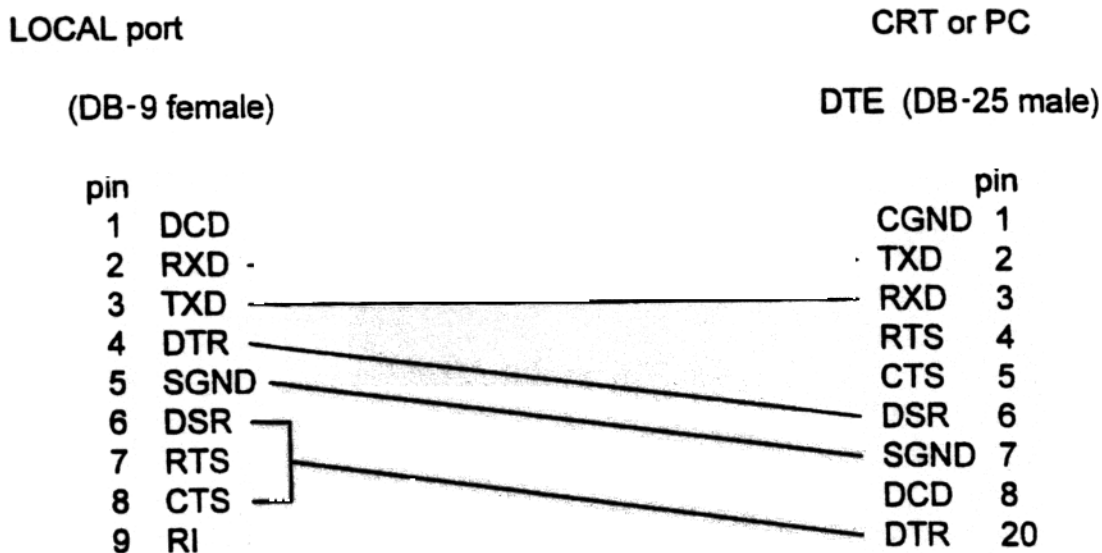
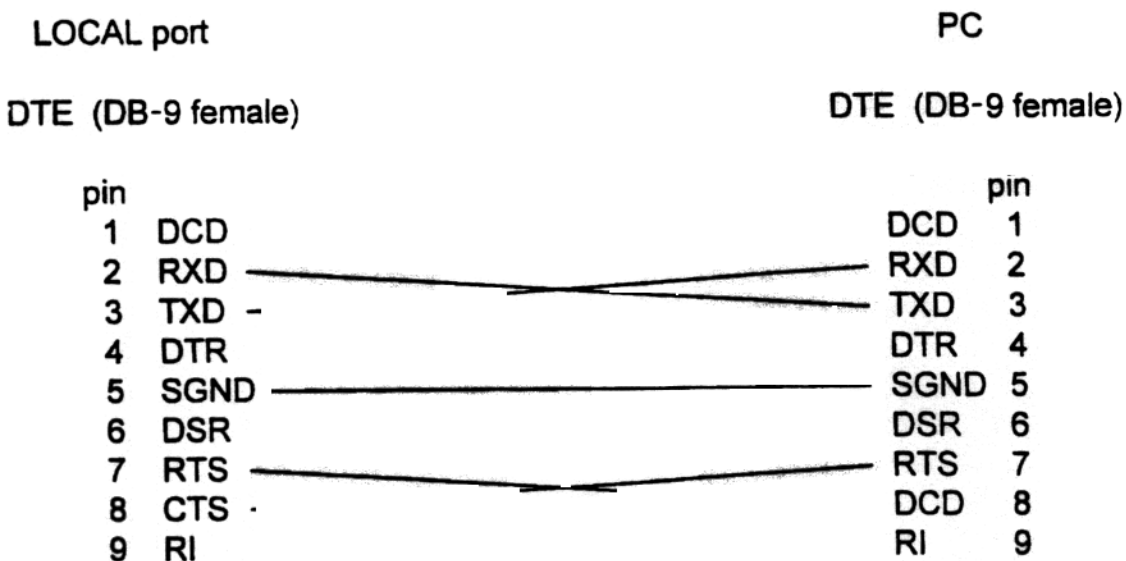

Figure 5-1. LOCAL Port Cable Wiring (9-pin to 25-pin)
Figure 5-2. LOCAL Port Cable Wiring (9-pin to 9-pin)
- ☐ Connect the terminal to the front panel LOCAL port using the appropriate cable with wiring as shown in Figure 5-1 or Figure 5-2.